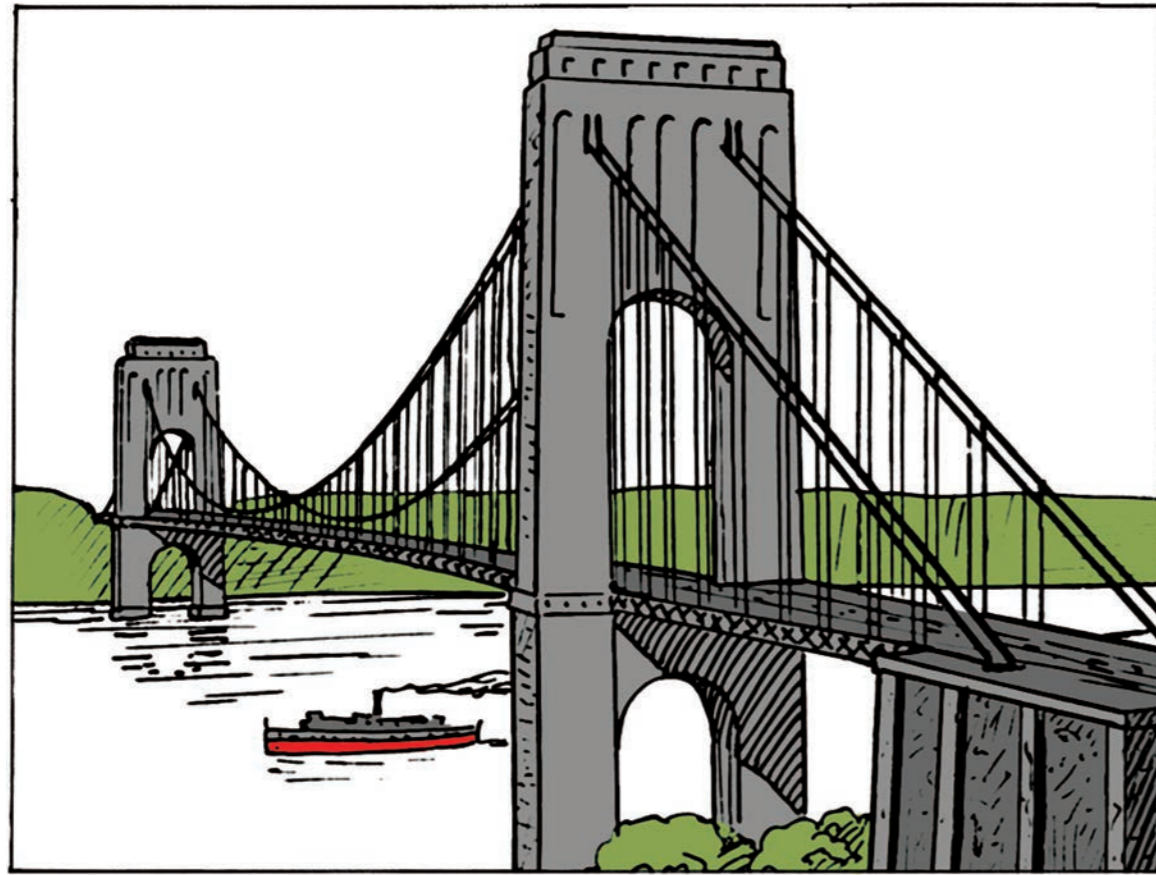

Figure 26
7. Figures 26 and 27 show a suspension bridge and an arch bridge.